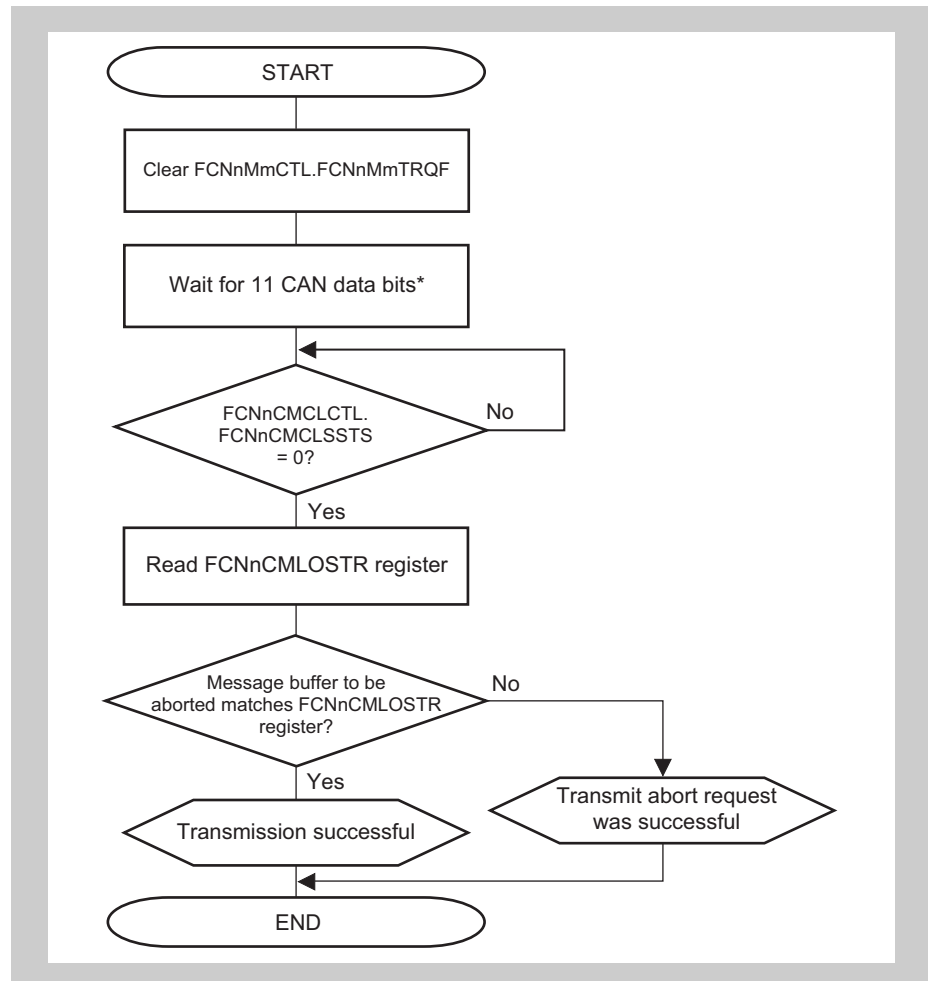
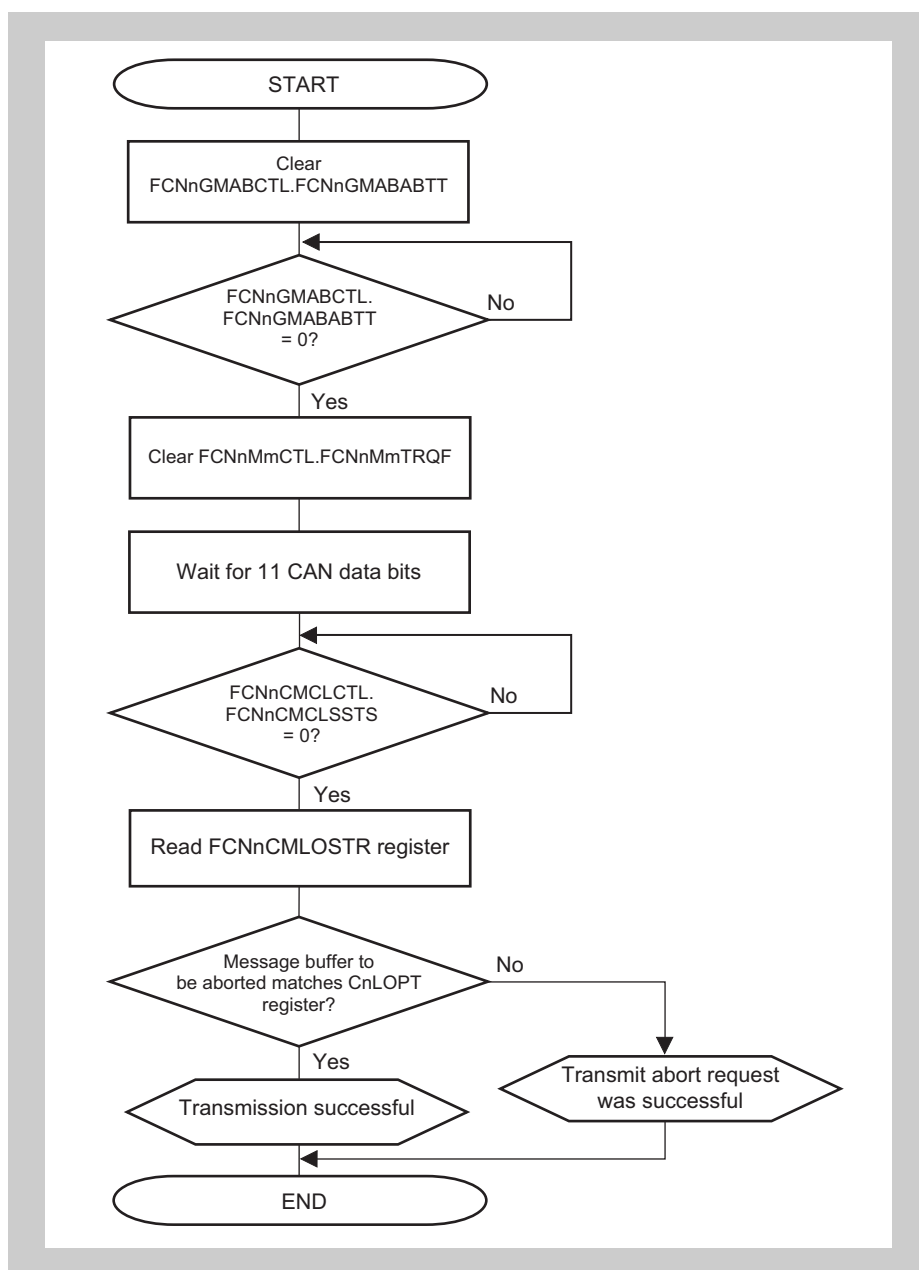
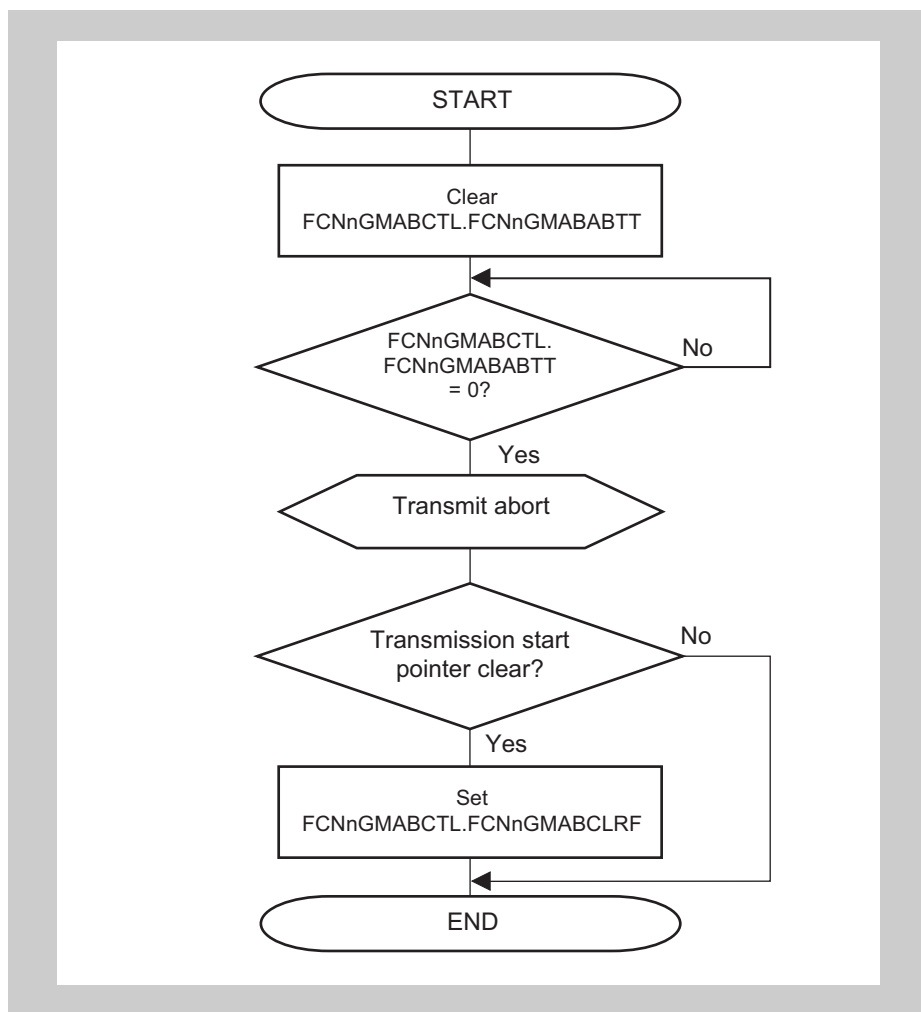
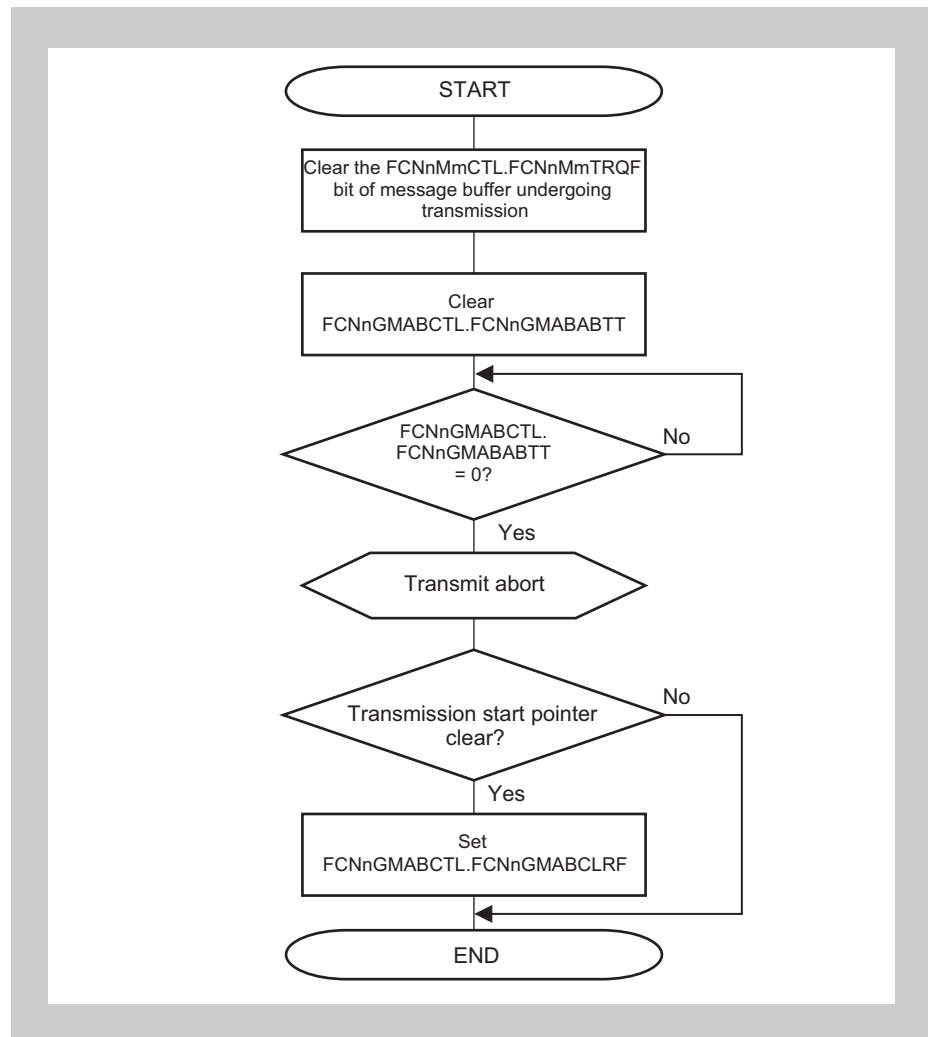

Figure 20-24 Transmission Abort Processing (Except Normal Operating Mode with ABT)
Figure 20-25 Transmission Abort Processing other than the ABT transmission (Normal Operating Mode with ABT)
Figure 20-26 ABT Transmission Request Abort Processing (Normal Operating Mode with ABT) (1)
Figure 20-27 ABT Transmission Request Abort Processing (Normal Operating Mode with ABT) (2)
- In initialization mode after all transmit requests have been cleared according to the transmission abort processing in Figure 20-24 in operating mode (In normal operating mode with ABT, clear all transmit requests according to the transmission abort processing in Figure 20-25.)
Figure 20-26, ABT Transmission Request Abort Processing (Normal Operating Mode with ABT) (1), shows the processing not to skip resumption of transmitting a message that was stopped when transmission of an ABT message buffer was aborted.
- Caution 2. Make a FCN sleep mode/FCN stop mode transition request after FCNnGMABCTL.FCNnGMABABTT is cleared (after ABT mode is aborted) following the procedure shown in Figure 20-26, ABT Transmission Request Abort Processing (Normal Operating Mode with ABT) (1), or Figure 20-27, ABT Transmission Request Abort Processing (Normal Operating Mode with ABT) (2) with Transmission Abort Interrupt Flag. When clearing a transmission request in an area other than the ABT area, follow the procedure shown in Figure 20-24, Transmission Abort Processing (Except Normal Operating Mode with ABT).
Figure 20-27 ABT Transmission Request Abort Processing (Normal Operating Mode with ABT) (2), shows the processing to skip resumption of transmitting a message that was stopped when transmission of an ABT message buffer was aborted.
- Caution 2. Make a FCN sleep mode/FCN stop mode transition request after FCnGMABCTL.FCnGMABABTT is cleared (after ABT mode is aborted) following the procedure shown in Figure 20-26, ABT Transmission Request Abort Processing (Normal Operating Mode with ABT) (1), or Figure 20-27, ABT Transmission Request Abort Processing (Normal Operating Mode with ABT) (2). When clearing a transmission request in an area other than the ABT area, follow the procedure shown in Figure 20-24, Transmission Abort Processing (Except Normal Operating Mode with ABT)).
- Caution 2. Make a FCN sleep mode/FCN stop mode transition request after FCNnGMABCTL.FCNnGMABABTT is cleared (after ABT mode is aborted) following the procedure shown in Figure 20-26, ABT Transmission Request Abort Processing (Normal Operating Mode with ABT) (1), or Figure 20-27, ABT Transmission Request Abort Processing (Normal Operating Mode with ABT) (2). When clearing a transmission request in an area other than the ABT area, follow the procedure shown in Figure 20-24, Transmission Abort Processing (Except Normal Operating Mode with ABT).